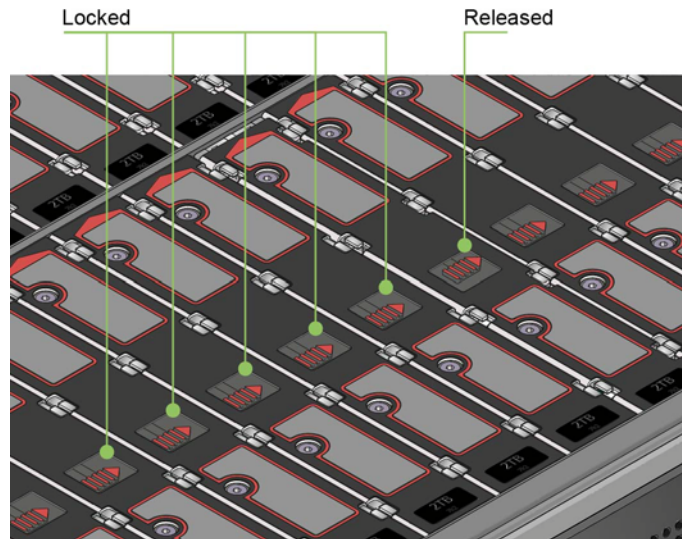

Figure 6-7 Latch Position of a Correctly Inserted Drive
- 4 Check that the release latch has returned to its locked position, as shown in Figure 6-7.